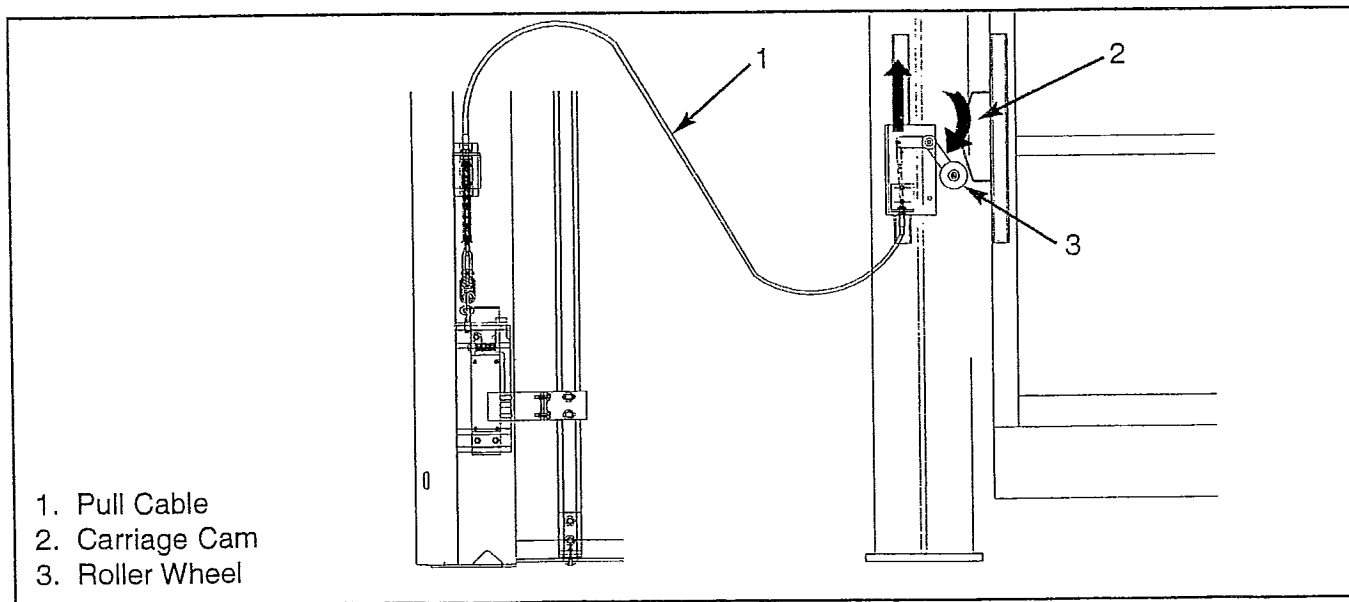

Figure 5
1. Mount the carriage cam to allow $\frac{3}{4}$ "-1" cable travel (2" maximum cable travel). Make sure the roller wheel clears the edge of the cam. Center the cable travel at the center of the full cable stroke by positioning the cable in the bracket angle. See Figure 5.